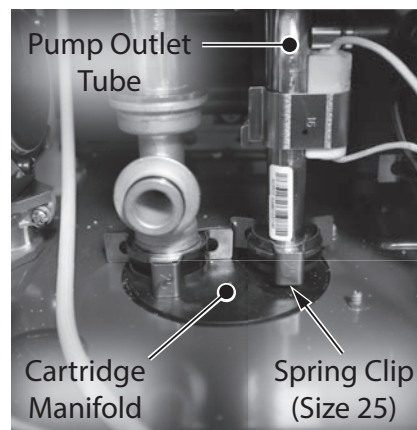

Figure 247 - Remove spring clip from pump outlet tube
- 15** Locate and remove the small spring clip (size 25) securing the pump outlet tube to cartridge manifold as show in Figure 247. Place spring clip aside in a safe place for reinstallation. Disconnect pump outlet tube from manifold.